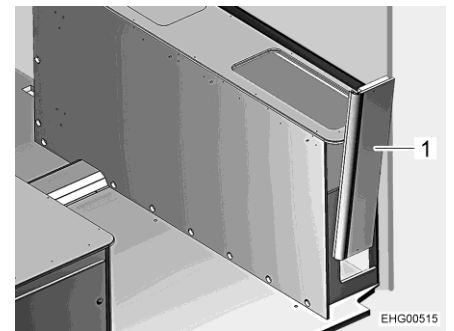

Fig. 137 Bedding box on the right, side wall
- Remove the side wall (Fig. 137,1) upwards with light shaking movements.